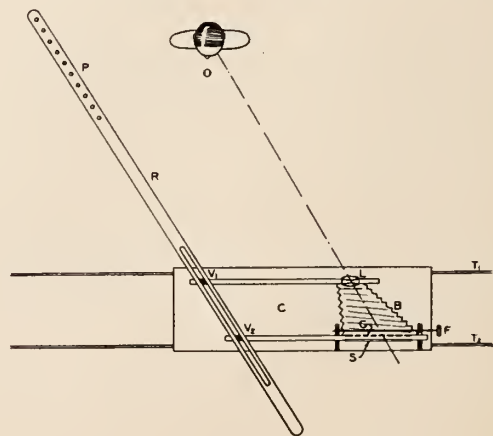

Fig. 3.
Without entering into a discussion of several alternative means by which the several requirements might be met,³ we may examine at once the final design of camera as worked out, in which all the problems listed above are solved in a comparatively simple way. This is shown in Fig. 3 in a simplified diagrammatic form. The essential feature is that the object (O), the lens (L) and the